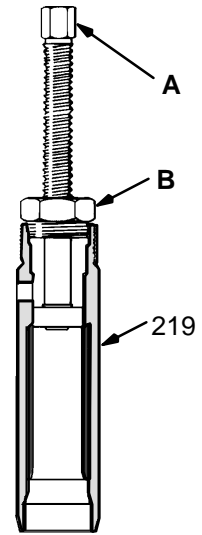

Fig 34-2
6. Screw the large nut (B) of the tool into the top of the cylinder (219). Screw down the rod (A) to push the sleeve out. Remove the tool. Refer to Fig 34-2.